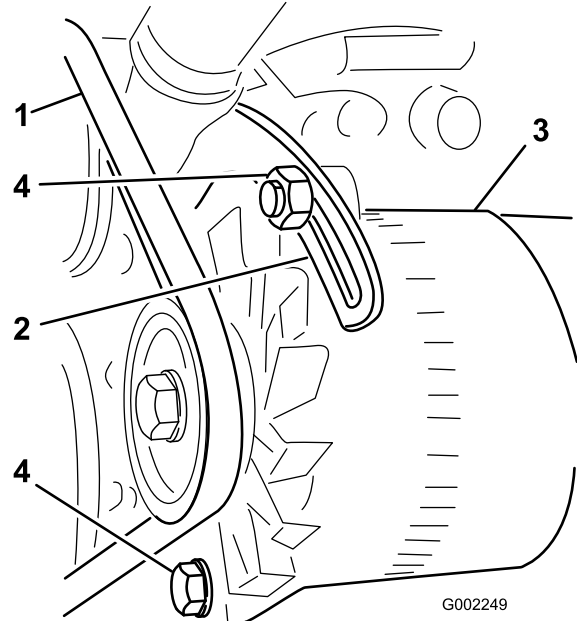

Figure 84
8. Start the engine with the cap loosely on the radiator (Figure 84).
3. Loosen the bolts that secure the brace to the engine and the bolt that secures the alternator to the brace (Figure 84).